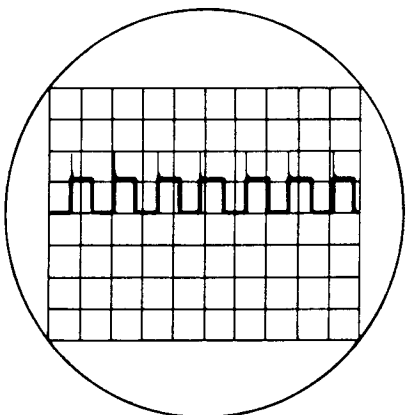

Fig. 10
9. Square Wave Trace as in Fig. 10	C6 O/C